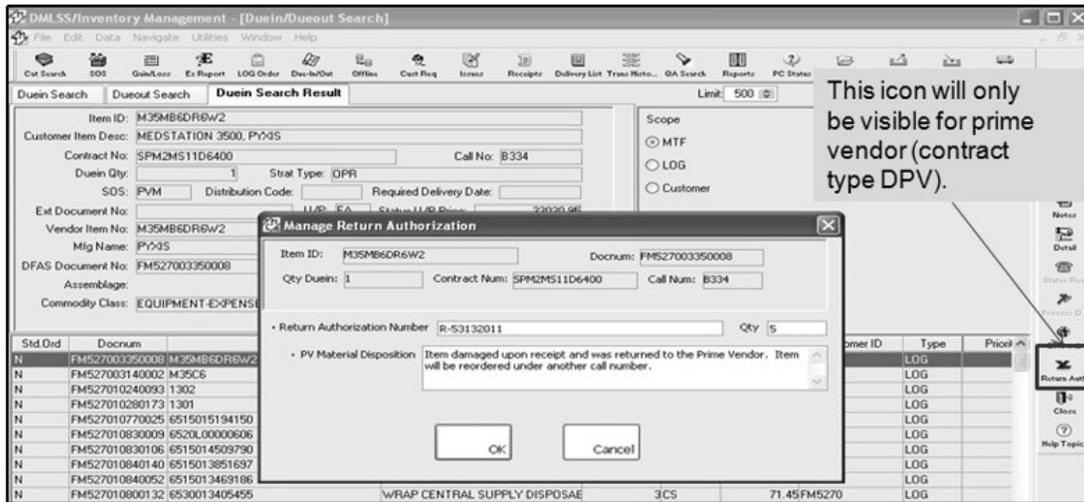

Figure 28. Return Authorization Modal Window
5. Utilize the "Return Authorization (Auth) Modal" window (Figure 28) to enter information regarding a discrepancy or request for return. For example, the PV's distribution center pulled the wrong item or National Drug Code, and an exchange for the materiel is attempting to be secured.